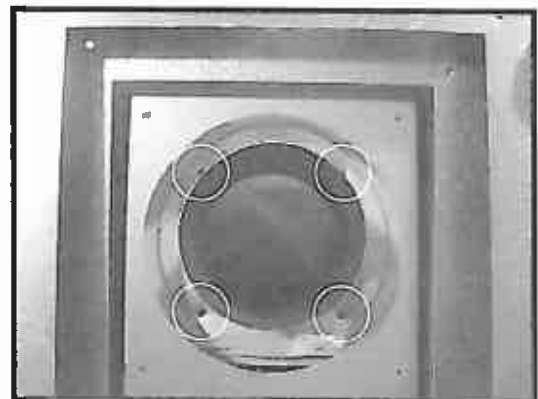

Figure 9 - Remove Screws from Inner Collar
5. Remove four screws holding the inner collar to the appliance top. See Figure 9. Remove the inner collar.